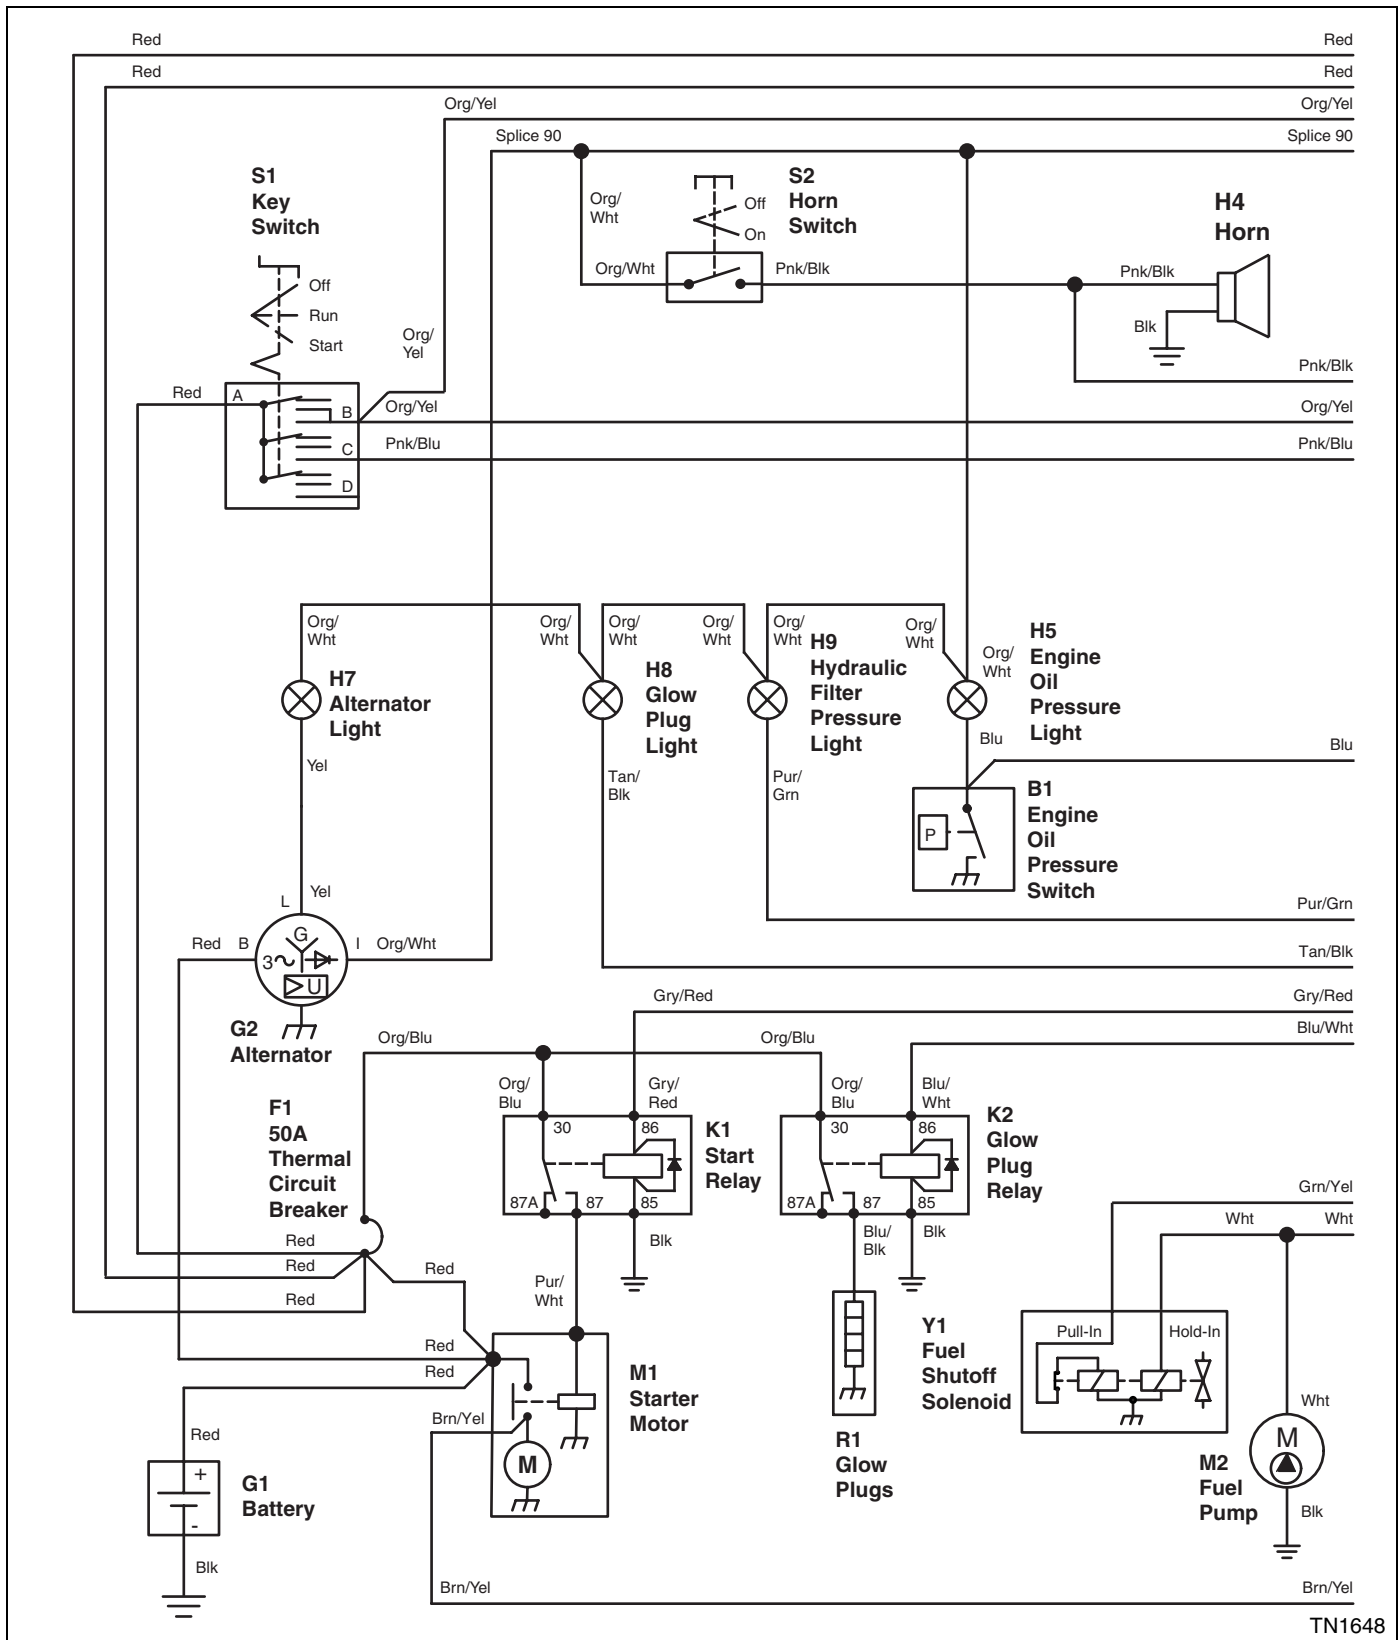

Figure 4-1
- B1—Engine Oil Pressure Switch (See Figure 4-1.)
- F1—50A Circuit Breaker (See Figure 4-1.)
- G1—Battery (See Figure 4-1.)
- G2—Alternator (See Figure 4-1.)
- H4—Horn (See Figure 4-1.)
- H5—Engine Oil Pressure Light (See Figure 4-1.)
- H7—Alternator Light (See Figure 4-1.)
- H8—Glow Plug Light (See Figure 4-1.)
- H9—Hydraulic Filter Pressure Light (See Figure 4-1.)
- K1—Start Relay (See Figure 4-1.)
- K2—Glow Plug Relay (See Figure 4-1.)
- M1—Starter Motor (See Figure 4-1.)
- M2—Fuel Pump (See Figure 4-1.)
- R1—Glow Plugs (See Figure 4-1.)
- S1—Key Switch (See Figure 4-1.)
- S2—Horn Switch (See Figure 4-1.)
- Y1—Fuel Shutoff Solenoid (See Figure 4-1.)
See Figures 4-1 through 4-4.